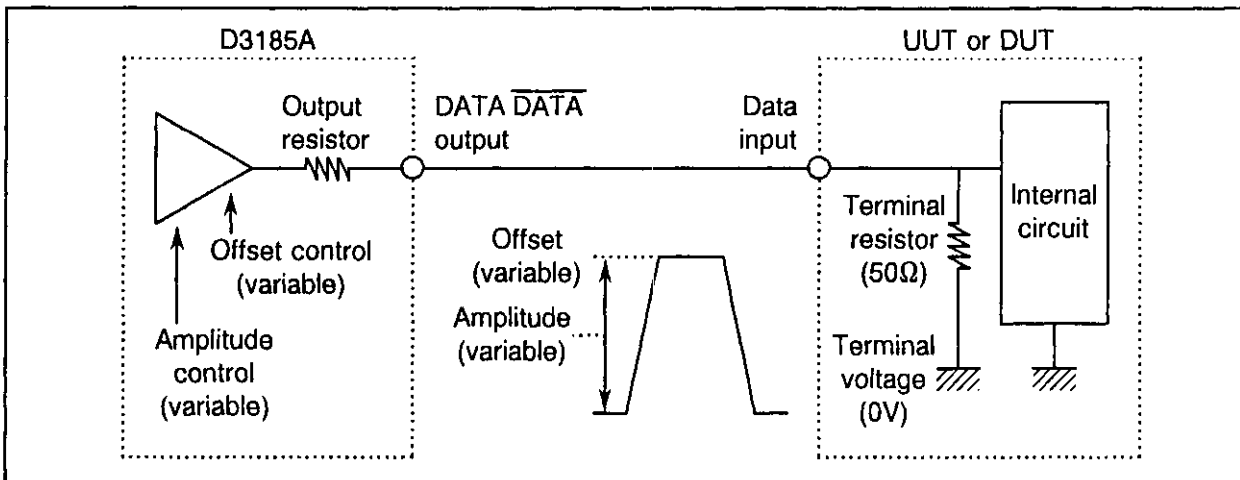

Figure 4-1 With DATA  $\overline{\text{DATA}}$  Output Used and 0V Termination
- (1) If the UUT or DUT data input terminator voltage is 0V (See Fig. 4-1.)